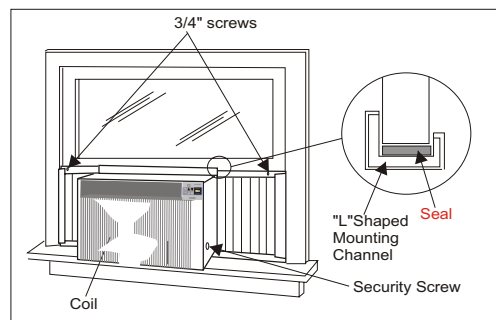

Fig. 12
B. Reinstall the slide-out-chassis security screws (removed earlier) on both sides of the cabinet. See (Fig. 12).
C. Now, secure bottom frame of shutters using one shutter clamp and one 3/4" screw on each side (Fig. 12).